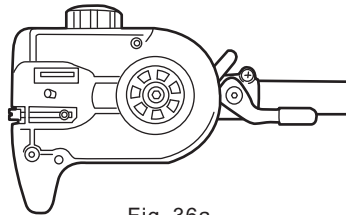

Fig. 36a
2. Check the oiling port (D14) for clogging and clean if necessary to ensure proper lubrication of the guide bar and saw chain during operation. Use a soft wire small enough to insert into the oil discharge hole. (See Fig. 36a)